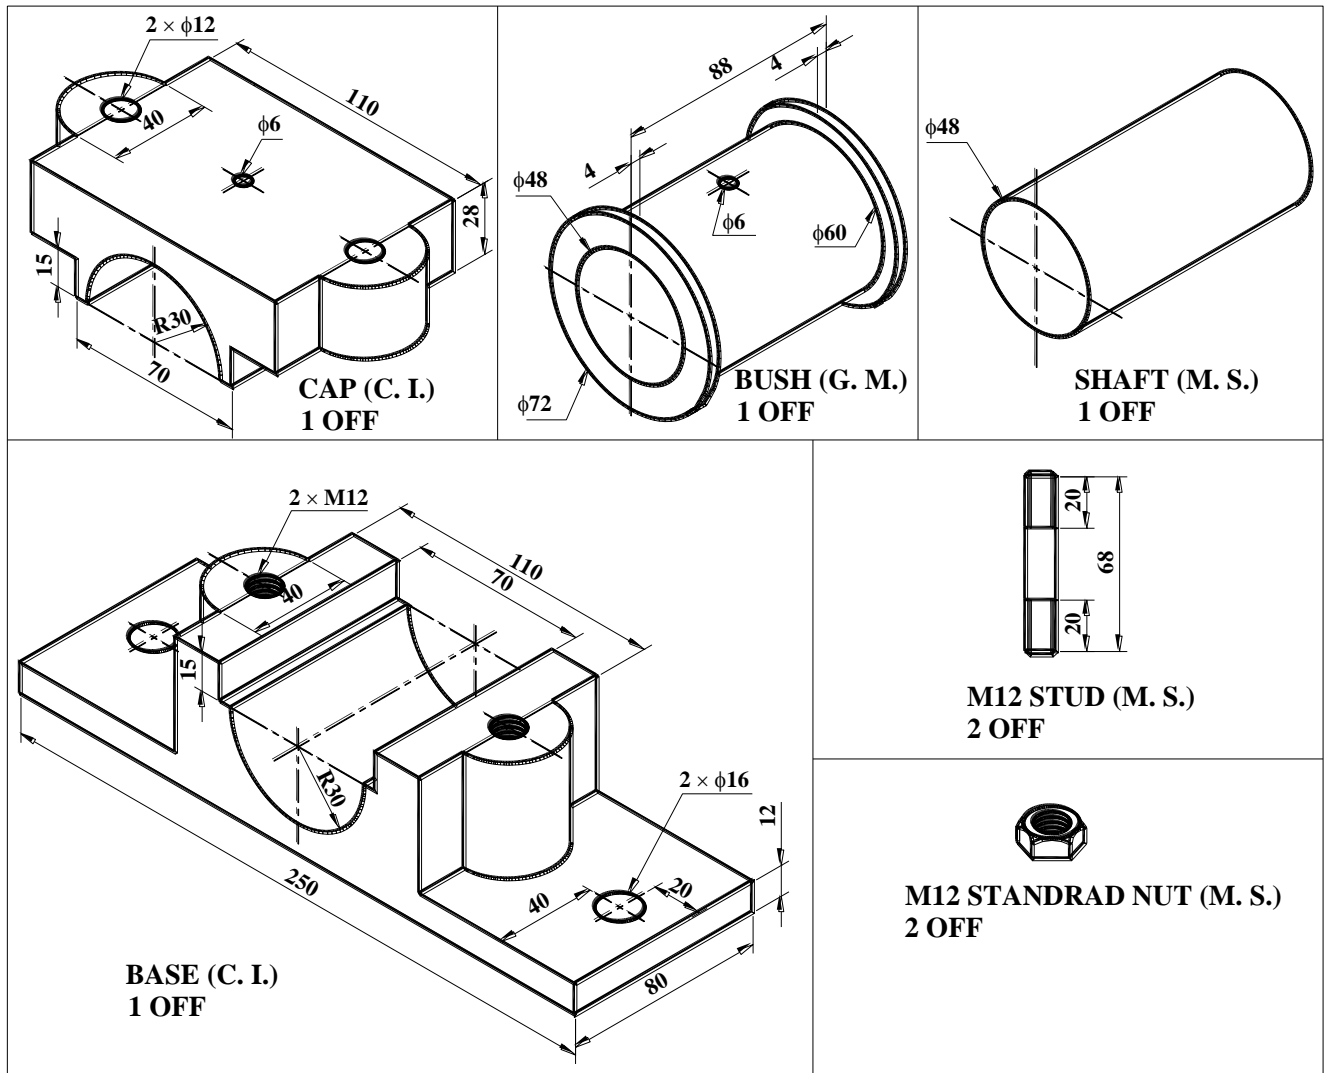

FIGURE T9.1: SPLIT BEARING
1. 1. *FIGURE T9.1 THE DETAILS OF A SPLIT BEARING. DRAW THE ASSEMBLED FRONT VIEW WITH SECTION. TAKE ANY LENGTH FOR THE SHAFT.*